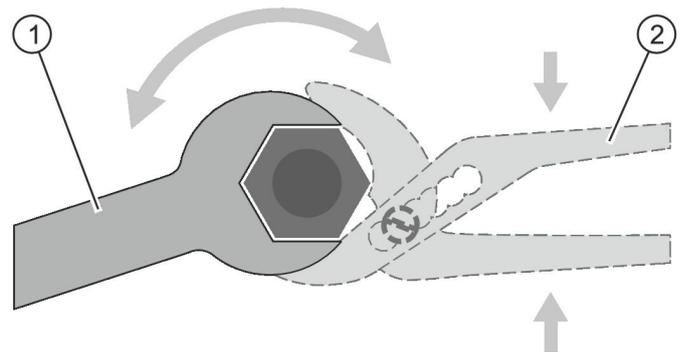

Fig. 31: Using water pump pliers to counter the tightening force
- ▶ Hold the threaded pipe tail of the heat exchanger with water pump pliers ( Fig. 31 /2).
- ▶ Hold the threaded pipe tail with the pliers while you use a spanner (hexagonal profile, Fig. 31 /1) to connect the heat exchanger to the pipework (pipework by others).